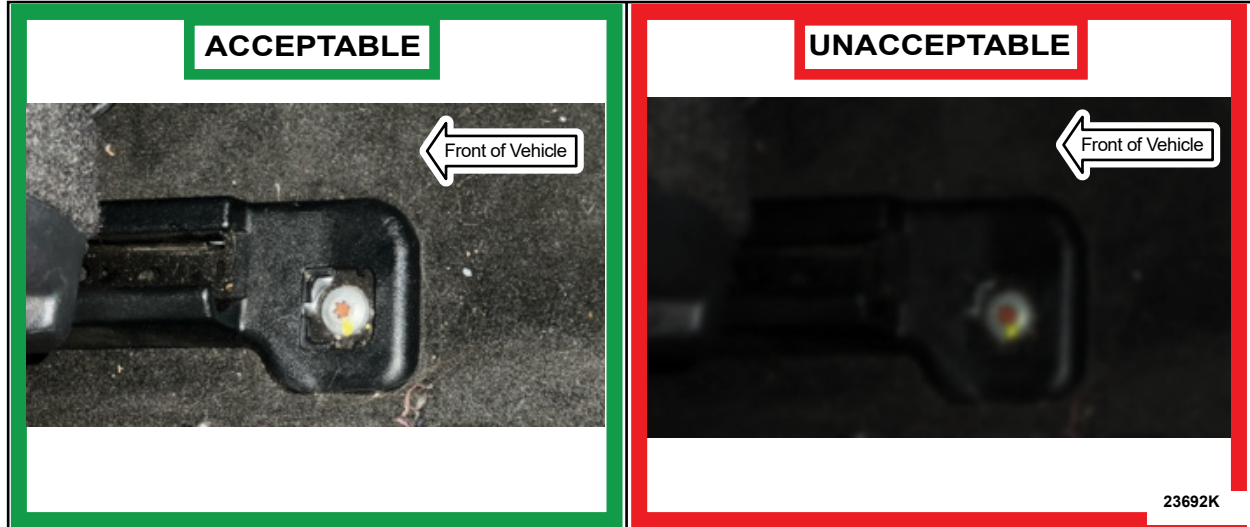

FIGURE 4
8. Capture a clear image of the rear outboard attachment point of the seat track on both sides of the vehicle. See Figure 4.